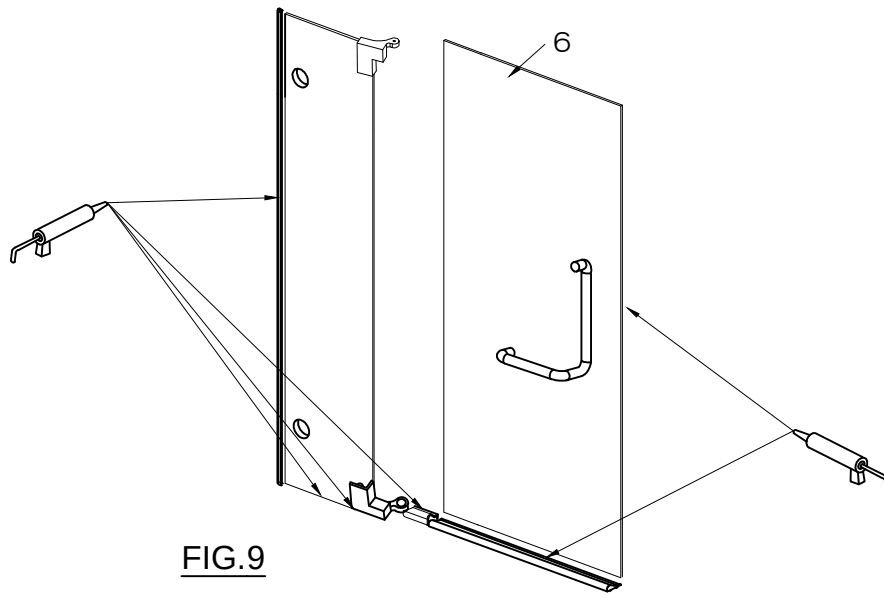

FIG.9
1. Apply clear silicone caulking to the inside between the wall and side seal strip. [SEE FIG.9].